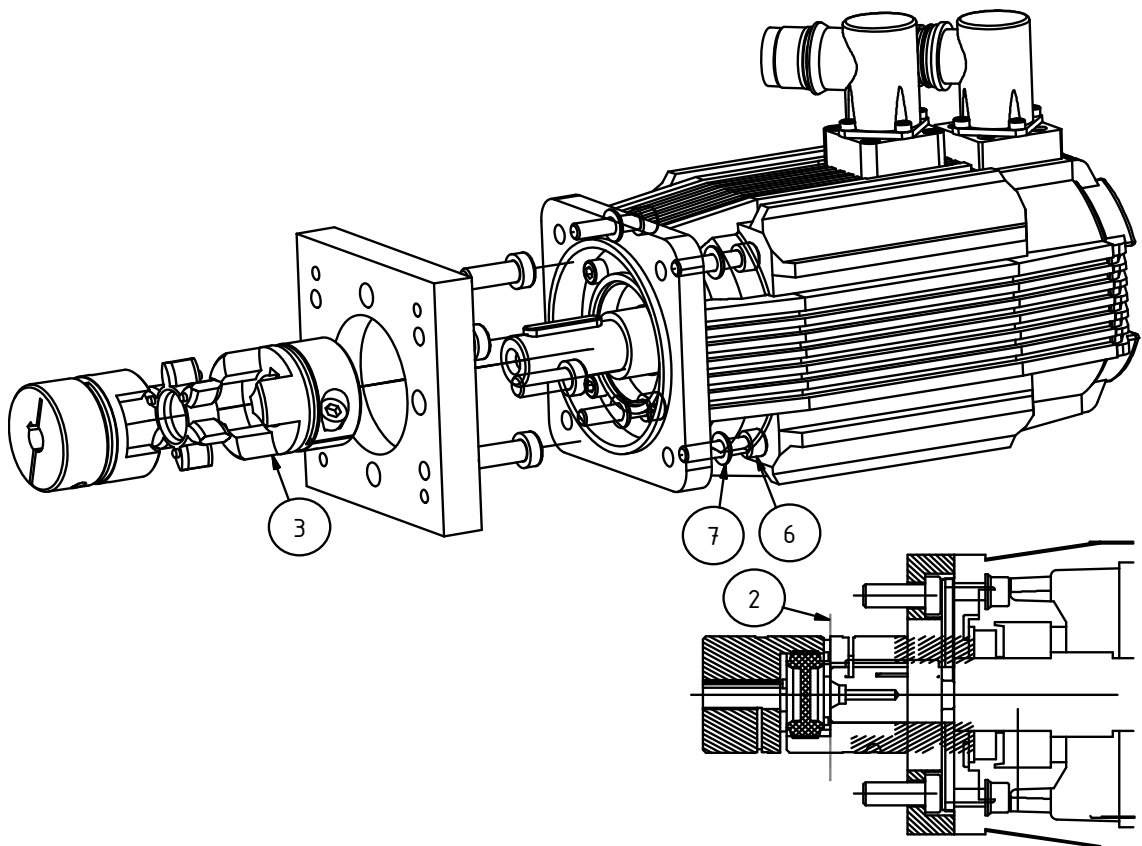

Figure 1
- ◆ Remove screws (Figure 1 Pos.6).